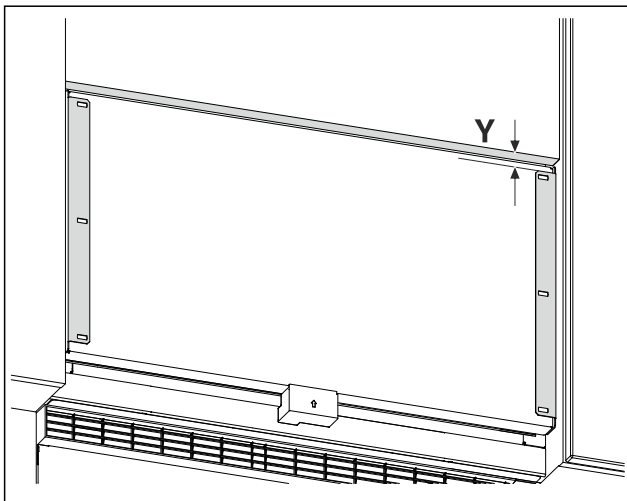

Fig. 23 Example illustration
- Measure the distance Fig. 23 (Y) from the lower edge of the unit door to the retaining bracket.